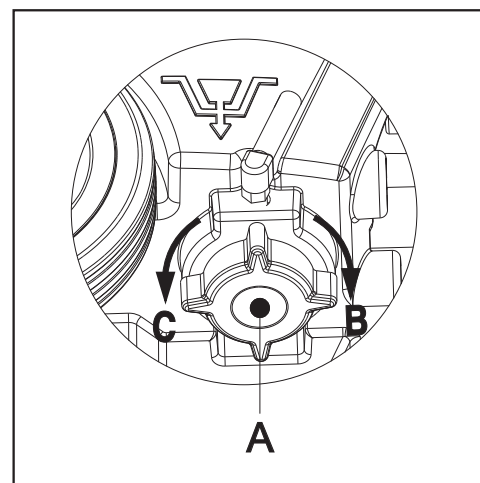

FIGURE 9
7. As shown in Figure 9, turn open the lid of Solution tank (A) counter clockwise (direction C), to drain Solution tank completely. Use clean water to rinse the inside of Solution tank. When work is completed, replace the solution tank lid (A) by twisting in a clockwise in direction (B).